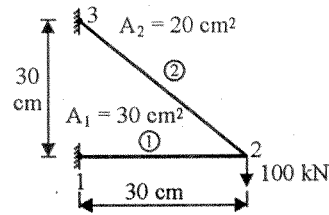

Fig. 2
12. Find the displacement at node 2 and the support reactions for the truss shown in fig. 2. $E = 20 \times 10^6 \text{ N/cm}^2$.